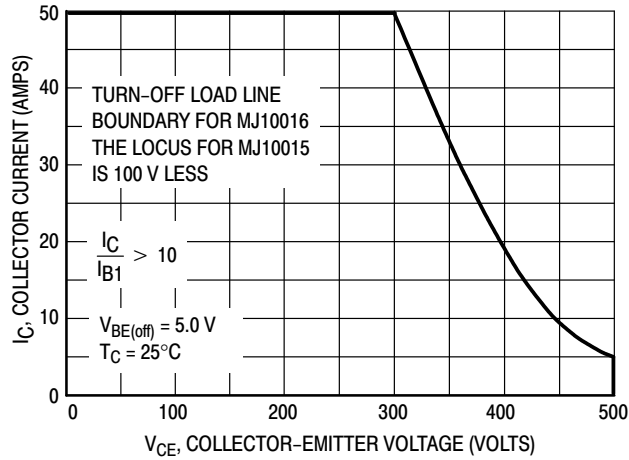

Figure 8. Reverse Bias Switching Safe Operating Area
*Adjust $-V$ such that $V_{BE(off)} = 5 \text{ V}$ except as required for RBSOA (Figure 8).
For inductive loads, high voltage and high current must be sustained simultaneously during turn-off, in most cases, with the base to emitter junction reverse biased. Under these conditions the collector voltage must be held to a safe level at or below a specific value of collector current. This can be accomplished by several means such as active clamping, RC snubbing, load line shaping, etc. The safe level for these devices is specified as Reverse Bias Safe Operating Area and represents the voltage-current condition allowable during reverse biased turn-off. This rating is verified under clamped conditions so that the device is never subjected to an avalanche mode. Figure 8 gives the complete RBSOA characteristics.